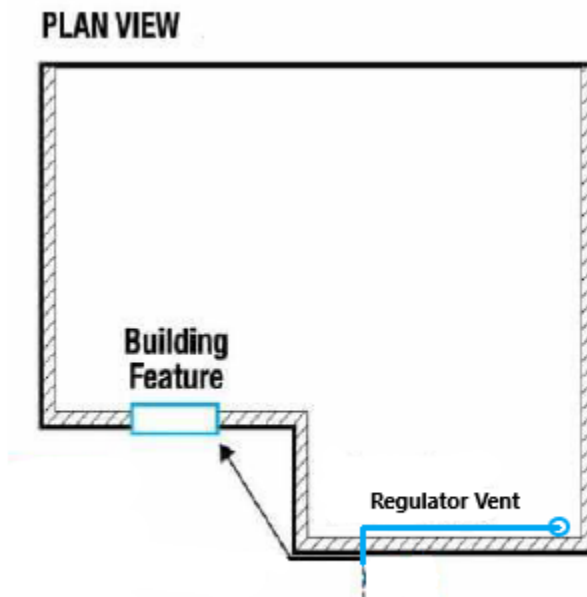

Figure 21. String line measuring
The minimum clearance must be maintained regardless if the feature is located around an outside corner. In these cases, measure as if using a string pulled tight from the outlet to the feature (Figure 21).
- Figure 21. “String line measuring” by Camosun College is licensed under a CC BY-NC-SA licence.